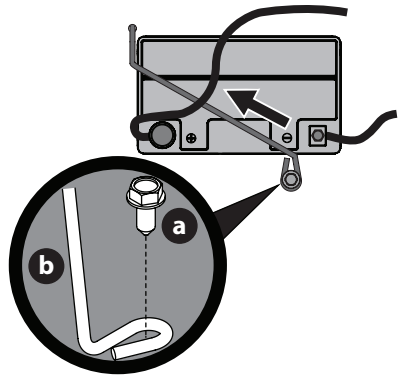

Fig. 15
**NOTE:** Wiring harness should lay on top of battery hold down rod, otherwise damage to the wiring harness may result (Fig. 15 on page 13).
3. Remove the hex washer screw (a) securing the battery hold-down rod (b) to the frame. Then flip the battery hold-down rod (b) up to free the battery (Fig. 15).